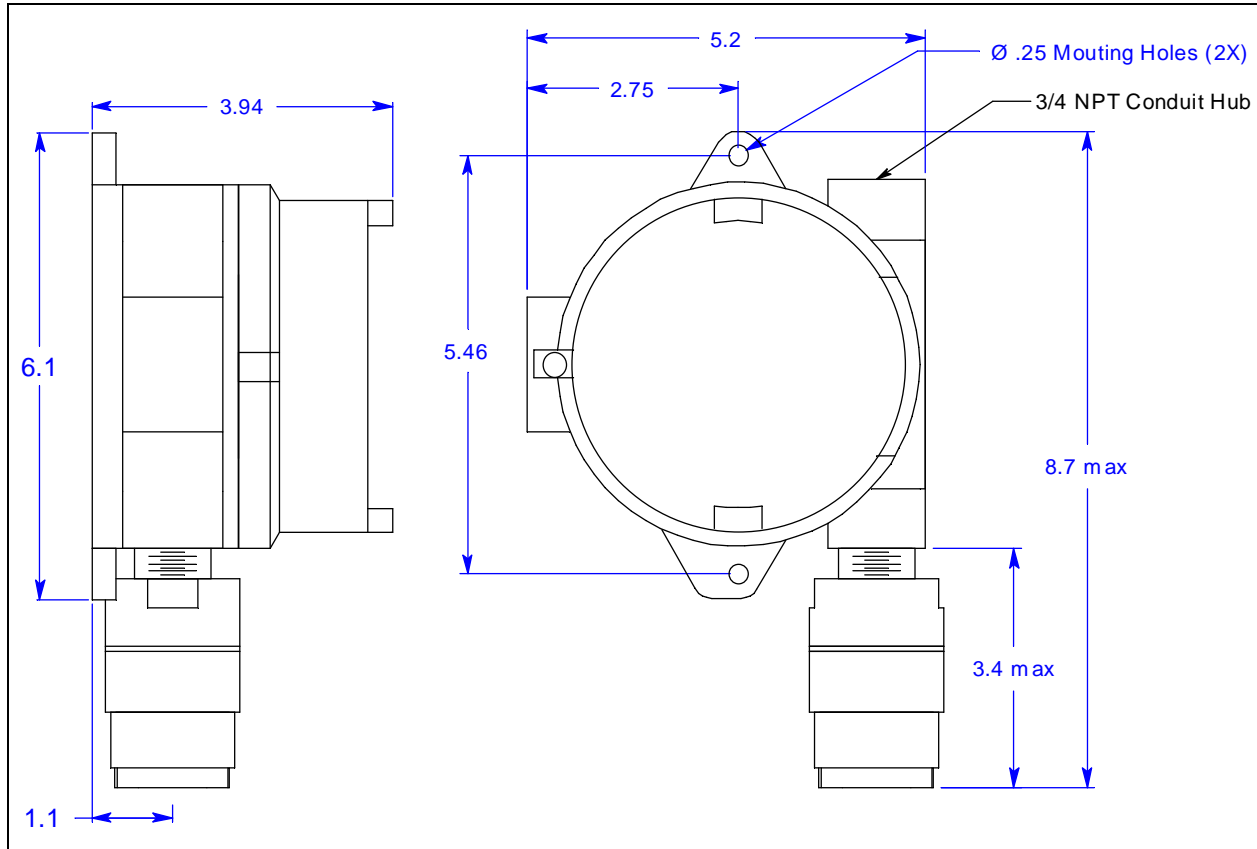

Figure 3: Mounting the H₂S Transmitter
If necessary, connect the detector leads to the detector terminal strip as shown in Figure 3.
5. Verify that the jumper block is installed over the **TOXIC** selector of the amplifier type selector as shown in Figure 3.
7. Connect the two wires to the interconnect terminal strip as follows (see Figure 3).
10. Connect the wires to the applicable controller transmitter terminal strip as shown in Figure 3.